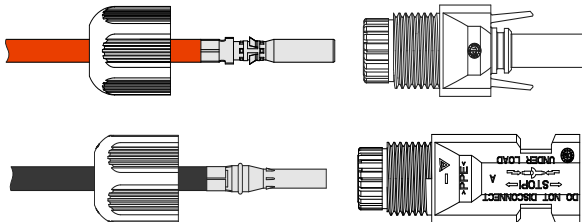

Figure3-40 Fasten the metal terminal
- Step 3 Insert the positive wire and negative wire into corresponding insulation crust respectively. If there has a click sound, it means that the wire have been inserted properly, as shown in Figure3-40.